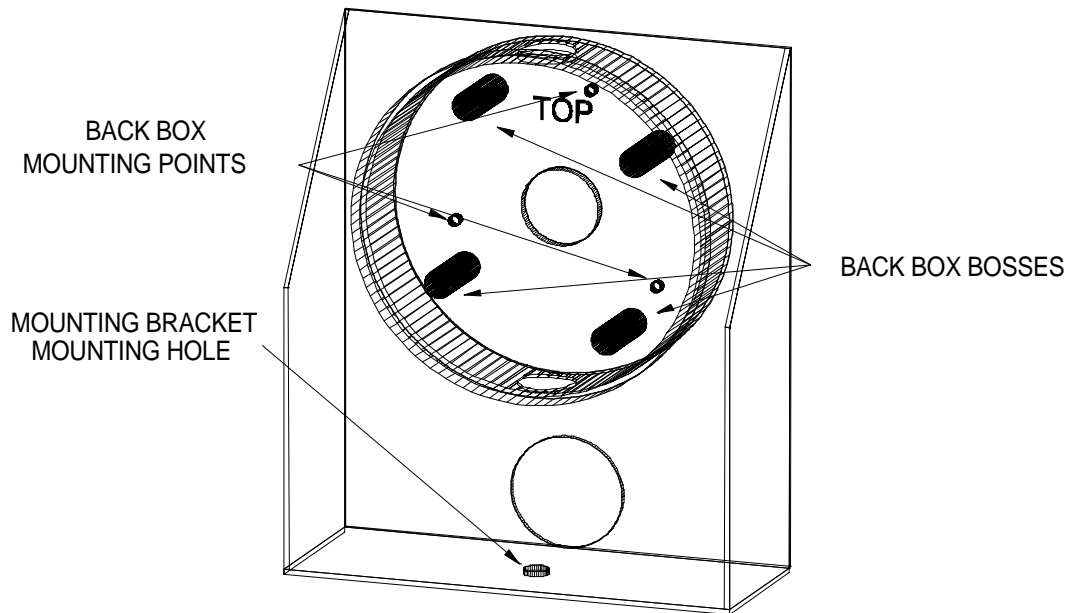

Figure 12 Back Box Mounting Points
8. Attach the weatherproof back box to the mounting bracket using the provided 6-32 x 5/8" screws and 6-32 gold nuts as shown in figure 12.